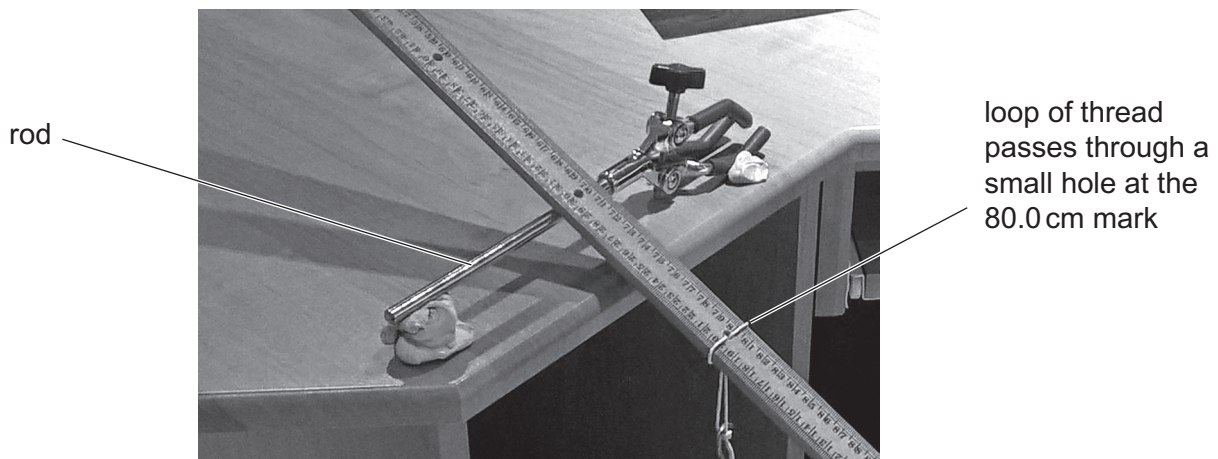

Fig. 4.3
The boss should be attached to the stand 40 cm above the base of the stand. A small hole should be drilled through the metre rule at the 80.0 cm mark. A loop of thread should be passed through this hole so that a mass hanger can be attached as shown in Fig. 4.3.
2. A smooth metal rod should be placed horizontally on the bench, 70 cm from the rod of the stand. A suitable rod is the arm of a clamp. Pieces of Blu Tack can be used to hold the rod securely in place on the bench as shown in Fig. 4.3. The rod must be positioned so that the rule pivots on it and stays clear of the edge of the bench when a mass of 400 g is attached to the loop of thread. The stand may be secured in place using a G-clamp or a heavy weight.